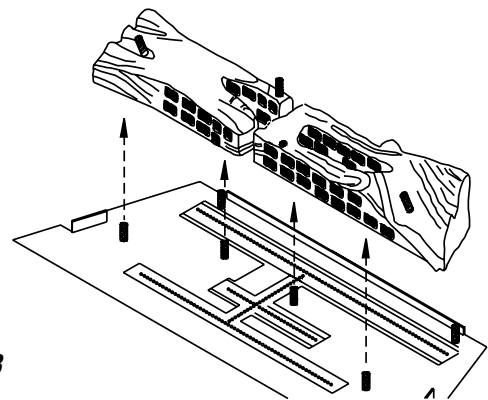

Figure 23
3. Rotate the right front log (3018 is cast into its bottom surface) so the charred black surface is toward the front. Place this log so the two holes in its bottom surface slide onto the two pegs on the right side of the air control panel. See **Figure 23**.
4. Rotate the left front log (3017 is cast into its bottom surface) so the charred black surface is toward the front and place it on the pegs protruding from the left side of the air control panel as shown in **Figure 23**.